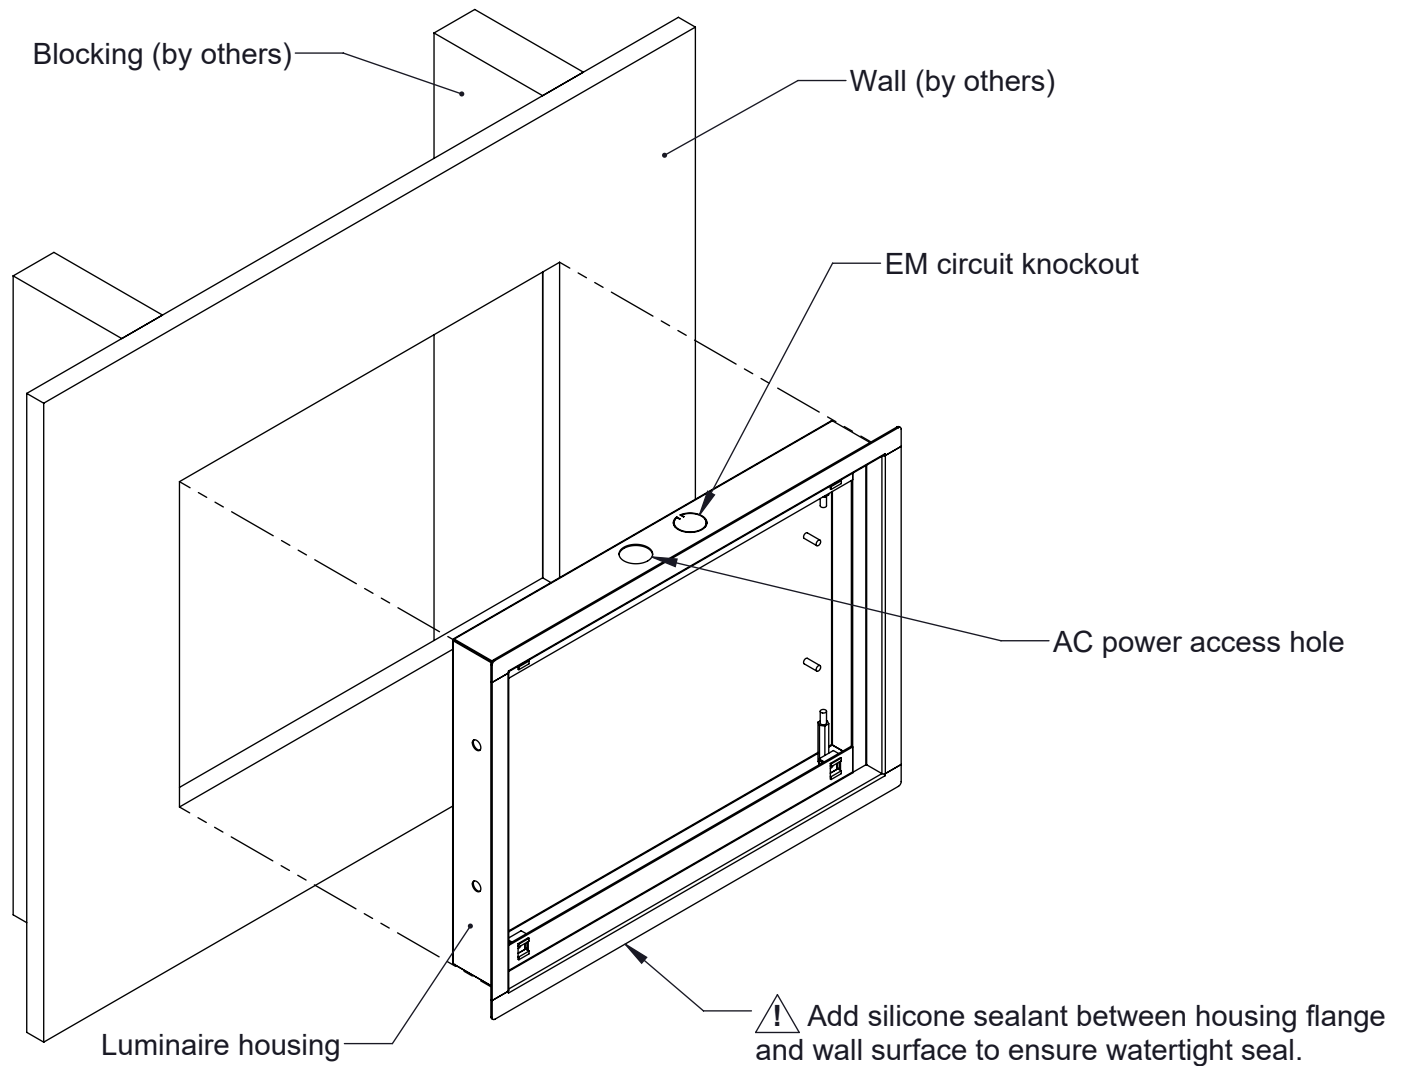

Figure 5
3. Insert luminaire housing into wall cutout (Fig. 5). See cover page for wall cutout dimensions.